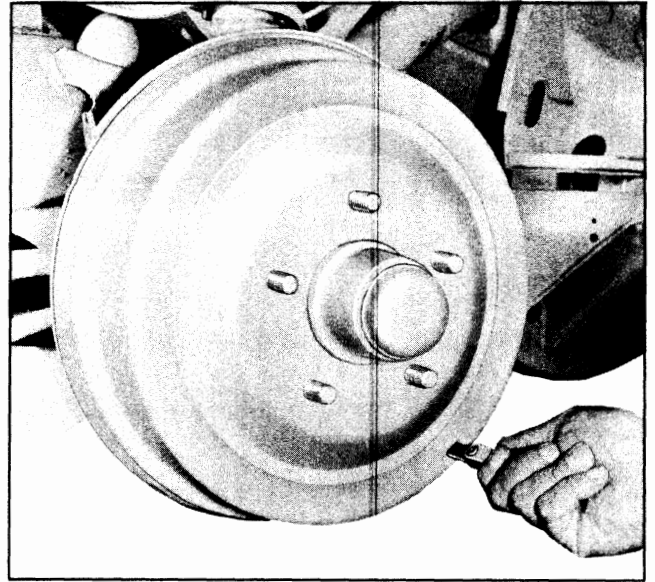

Fig. 5-9 Checking Lining to Drum Clearance
6. Proper lining to drum gap is $.015'' \pm .005''$ measured between secondary (long) lining and drum while primary (short) lining is against drum. Proper gap is required at both ends of the secondary lining. A five to ten lb. drag on a $.015''$ feeler during initial withdrawal from full lining width insures holding primary against drum (Fig. 5-9).